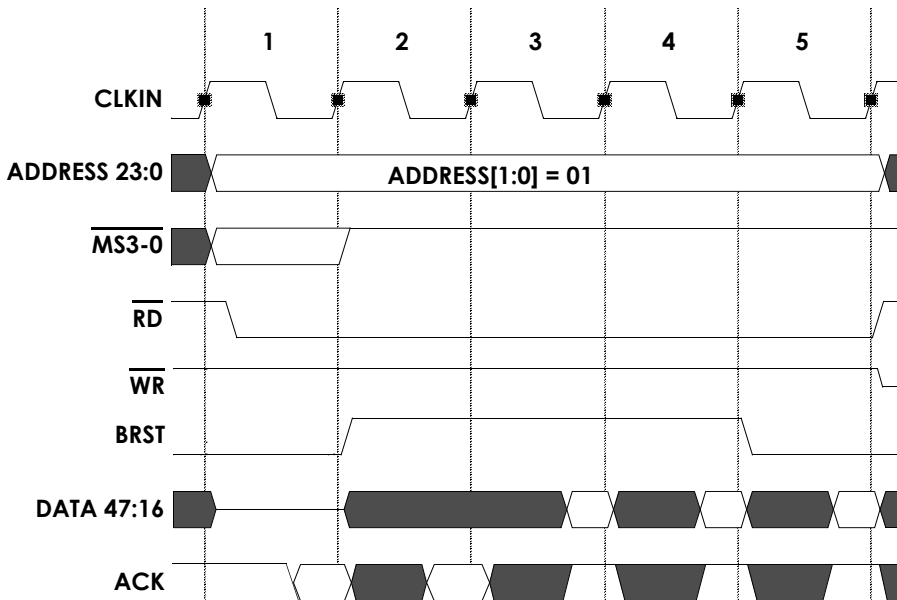

Figure 7-13. External Memory Synchronous Burst Read Example
An example of a synchronous burst read of length three appears in Figure 7-13. Here, the bank used in the transfer has two waitstates.
External memory synchronous burst reads occur with the following sequence of events as shown in Figure 7-13 on page 7-32:
1. (cycle 1 in Figure 7-13) If  $\overline{ACK}$  is sampled asserted at the beginning of cycle 1, the DSP drives the read address and asserts a memory select signal ( $\overline{MS3-0}$ ) to indicate the selected bank.